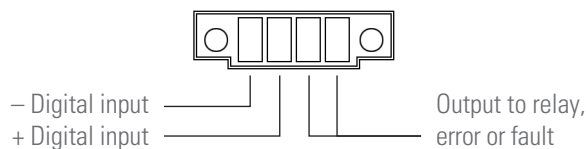

Fig. 15. Digital input/output to relay connector.
- The device has a four-terminal connector for a digital input and output to relay (see Fig. 15).
- ❑ Error or fault dry contact. Any error or fault will modify the state of the normally open (NO) 24V DC 1A contact. (PAY ATTENTION to the voltage and current applied).